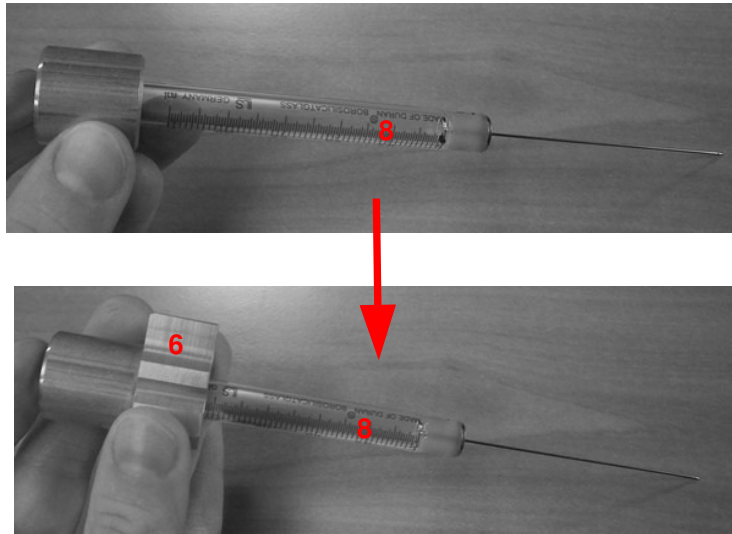

Figure 116: Syringe holder positioning
9. Also insert (sliding from the needle side) the syringe holder (number 6 in **Figure 116**). It should offer a little resistance during insertion.
9. Also insert (sliding from the needle side) the syringe holder (number 6 in **Figure 116**). It should offer a little resistance during insertion. Please note that 5ml syringe holder has a bigger diameter than the 2.5ml one.
22. Also insert (sliding from the needle side) the syringe holder (number 6 in **Figure 116**). It should offer a little resistance during insertion. Please note that 1ml syringe holder has a lower diameter than the 2.5ml one.